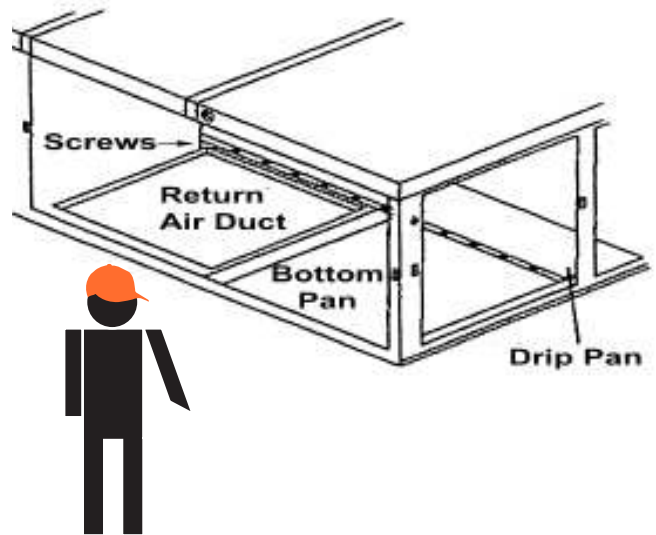

Figure 7 - RA duct and screw locations
3. If in place, remove the RA duct panel that covers the RA opening. See Figure 7.
5. Position yourself in front of the unit with the OA section on your right and RA section on your left. See Figure 7.